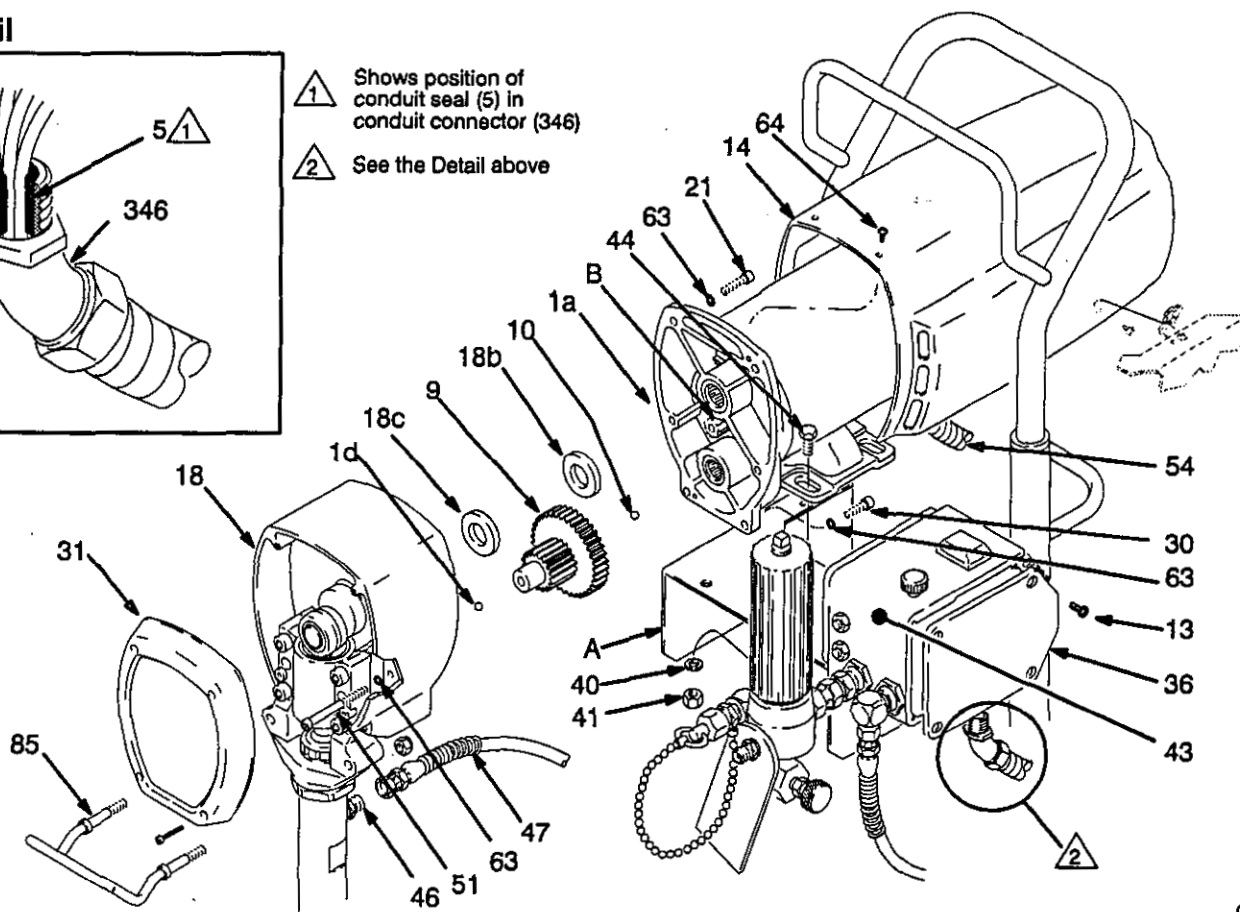

Fig. 42
18. Align the motor assembly with the frame mounting holes. Install the screws (44) and related hardware.
19. Liberally grease the gear cluster (9) and pinion gear (B) and pack all bearings in the motor front end bell. Check to be sure the thrust balls (1d and 10) are in place.
20. Place the bronze-colored washer (18c) and THEN the silver-colored washer (18b) on the shaft protruding from the big gear in the drive housing (18).
21. Align the gears and push the drive housing (18) straight onto the front end bell (1a) and locating pins.
NOTE: Use a turning motion on the conduit (22) when feeding wires through it. Be sure to reinstall the conduit seal (5) around the wires of the conduit connector (346) to prevent motor contamination from entering the pressure control. See the Detail in Fig. 42.